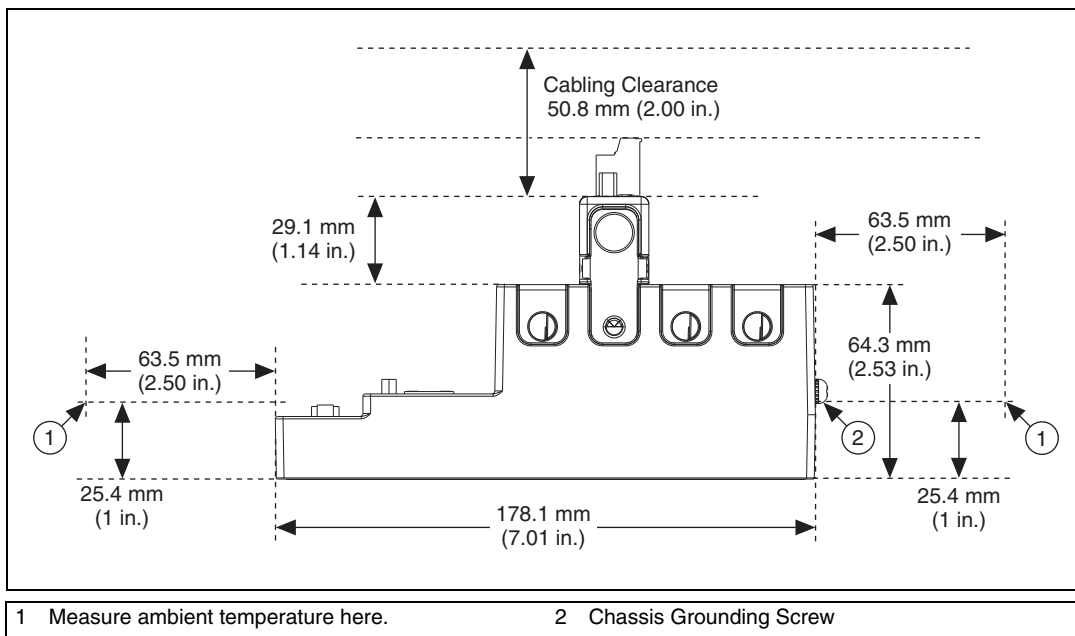

Figure 3. cRIO-9075/9076, Bottom View with Dimensions
Note Measure the ambient temperature at each side of the chassis, 63.5 mm (2.5 in.) from the side and 25.4 mm (1 in.) forward from the rear of the chassis, as shown in Figure 3.
- Allow 50.8 mm (2 in.) in front of modules for cabling clearance for common connectors, such as the 10-terminal, detachable screw terminal connector, as shown in Figure 3.
You must connect the chassis grounding screw to earth ground. Refer to Figure 3 for the location of the grounding screw. Complete the following steps to connect to earth ground:
2. Remove the grounding screw from the grounding terminal on the right side of the chassis. Refer to Figure 3 for the location of the chassis grounding screw.